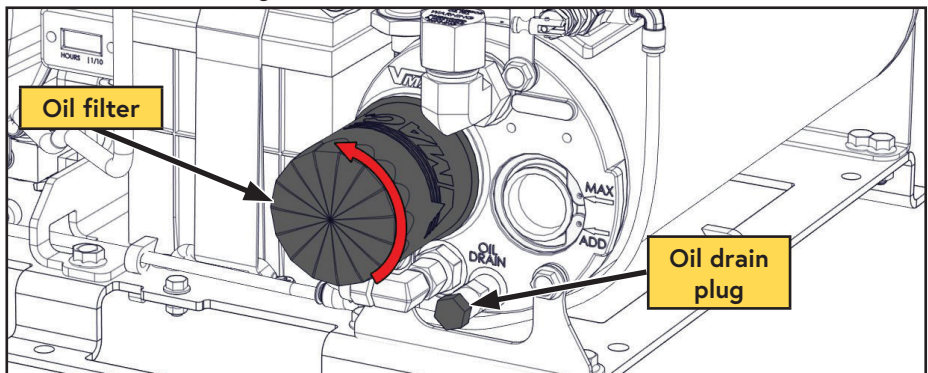

Figure 40 — Compressor oil filter
- Remove the oil drain plug and drain the oil into a container with a capacity of at least 4 L (1 USG) (Figure 40).
- Remove the oil filter (Figure 40 on page 61).